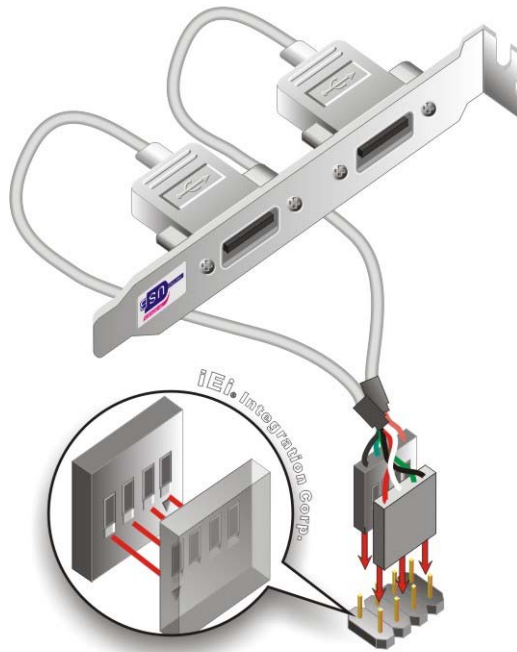

Figure 4-14: Dual USB Cable Connection
Step 3: Insert the cable connectors Once the cable connectors are properly aligned with the USB connectors on the PCIE-H610, connect the cable connectors to the on-board connectors. See **Figure 4-14**.